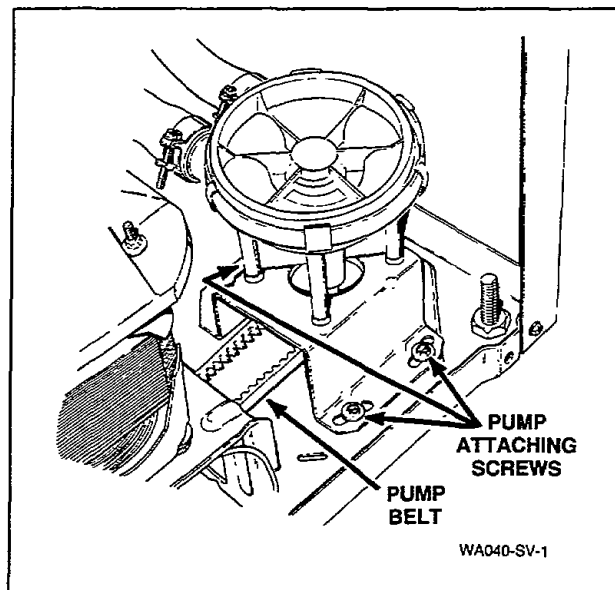

Figure 55
- Loosen two front mounting screws, *Figure 55*, then loosen the rear screw.
- After belt tension is obtained, tighten three pump attaching screws, *Figure 55*.